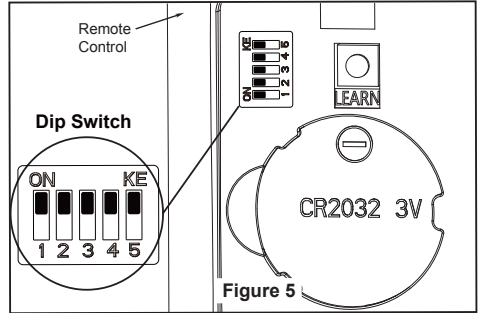

Figure 5
4. After connections have been made, put the white and green leads to one side and the black leads towards the other side, the connection should be turned upward and carefully push leads into the outlet box. The wires should be spread apart with the grounded conductor and the equipment-grounding conductor on one side of the outlet box and the ungrounded conductor on the other side. (Figure 5)
5. Assemble the LED assembly to the switch housing assembly using the two key slots. Replace the removed screw and secure all three screws. (Figure 5)
5. To set the remote code same positions as the receiver with a small screwdriver or ball point pen (neither included), slide dip switches firmly up or down. (Figure 5)